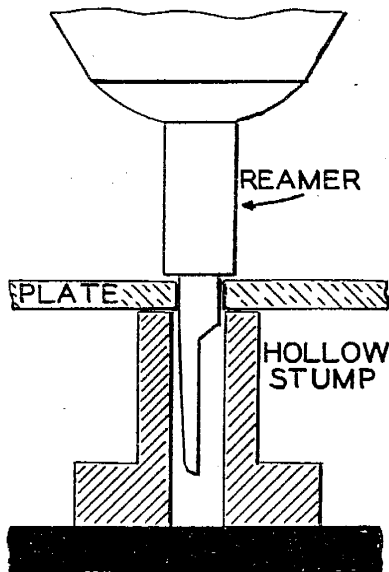

Fig. 14-12
5. Run reamer **completely through** the plate or bridge. Figure 14-12. These reamers are self-centering and cut slowly.